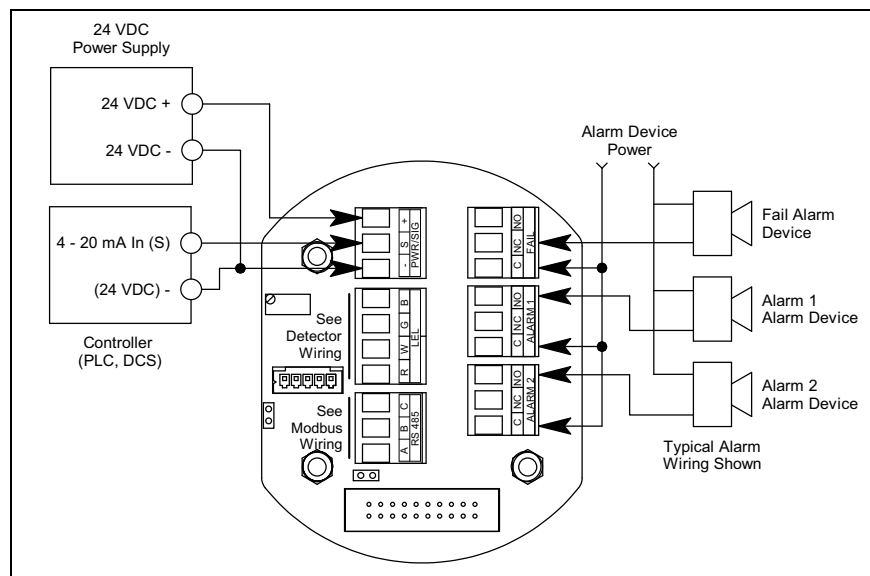

Figure 13: PLC and DCS Device Wiring
- See Figure 13 below for field wiring connections to the M2A-XL.